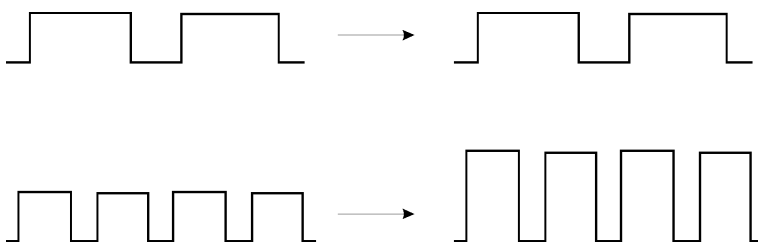

Figure 4: input-output relation using GATE (TTL) STEP SIZE
With this input a current step (gated stimulus) can be generated set by the digital potentiometer STEP SIZE (7) and the polarity switch (27). This current step is gated by a positive digital pulse (3-5 V) applied to the BNC connector. Two examples are given in Figure 4. The duration of the current step is determined by the duration of the gating signal. The amplitude of the current step is set by STEP SIZE (7).